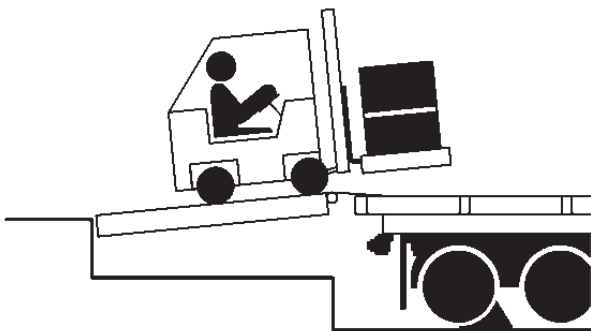

Figure 17
- c. Make sure that the lip is fully extended and supported on the transport vehicle along the entire width of the platform, with at least 4 in. (102 mm) of lip contacting the transport vehicle bed. See Figure 17.